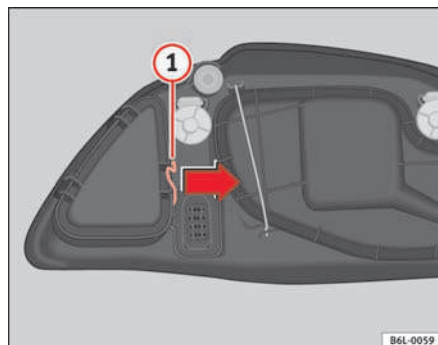

Fig. 148 Indicator lights
- Remove the loops ① ⇒ fig. 148 in the direction of the arrow and remove the cover.